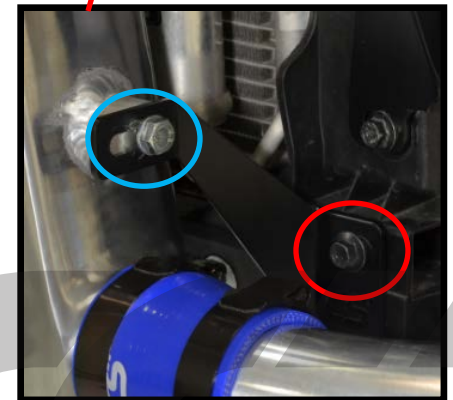

Figure 12d
- d) **Mount the intercooler end brackets.** Install the 10mm OEM bolt shown with the **red circle** in **Figure 12d**. Then install the provided 13mm bolt shown with **blue circle**. Leave both snug, not tight.